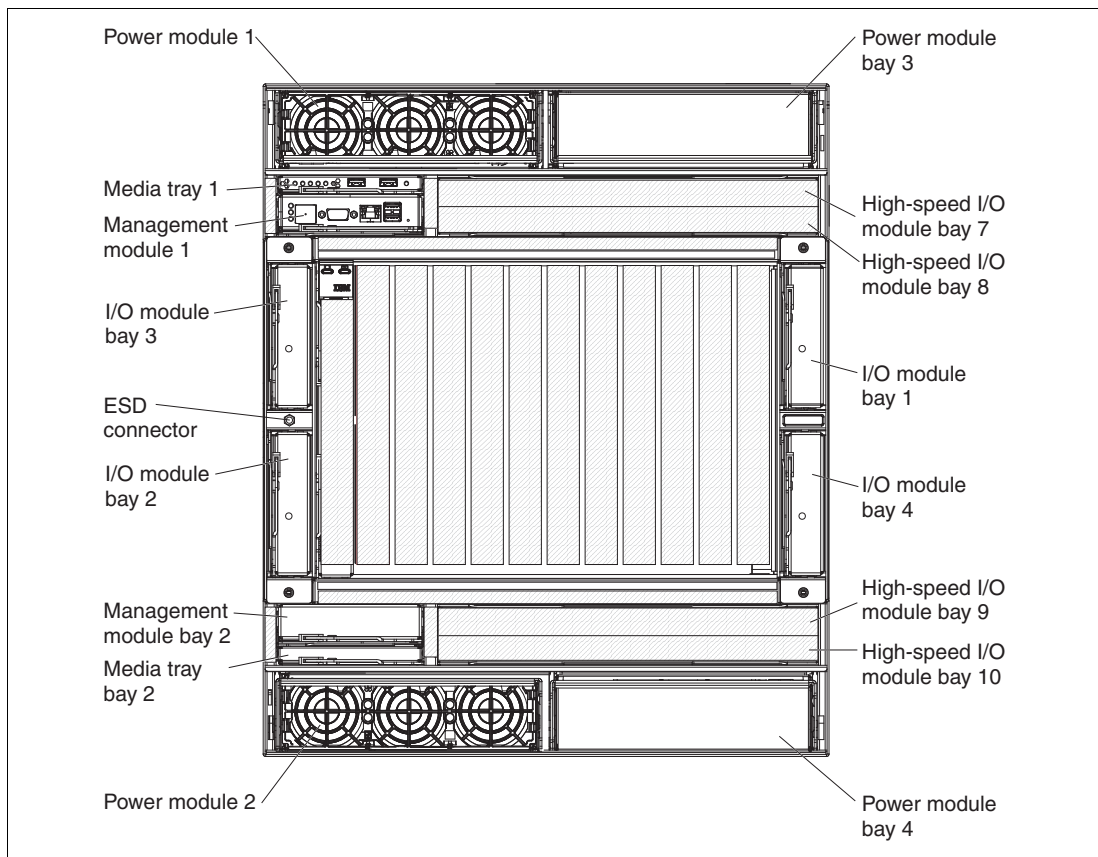
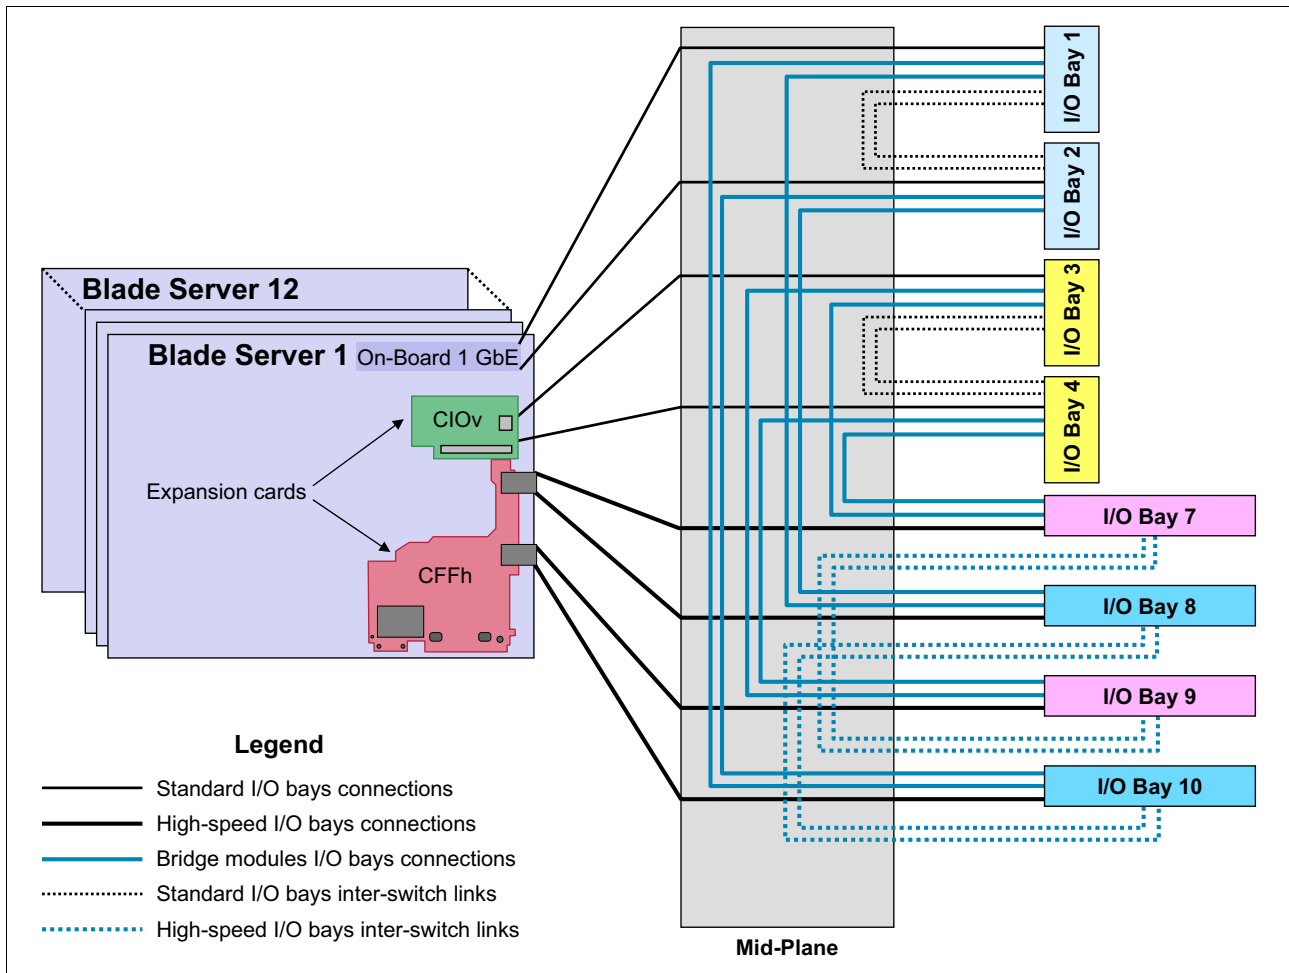

Figure 2-18 The BladeCenter HT chassis
Figure 2-20 IBM BladeCenter HT I/O topology
Figure 2-18 show the front view of the BladeCenter HT with the key chassis features.
The BladeCenter HT chassis has a total of eight I/O bays (Figure 2-18 on page 70). Each blade bay has a total of eight dedicated connection paths to the I/O modules (Figure 2-20).
- ▶ I/O bays 1 and 2 are connected to high-speed I/O bays 8 and 10 in a redundant manner, and bays 3 and 4 are connected to bays 7 and 9 in a redundant manner (Figure 2-20).